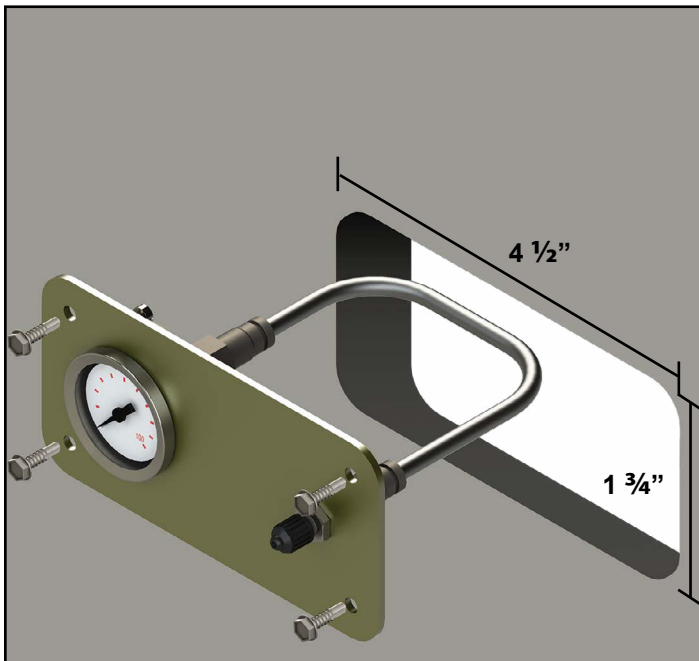

Fig.10
2. Determine the location of the panel and, with a suitable tool, cut a 4 1/2" x 1 3/4" opening for the air gauge and fill valve (**Fig.10**).